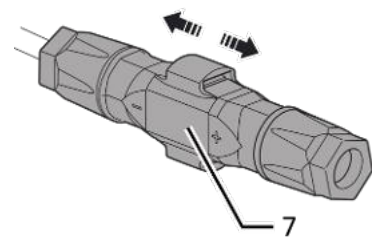

Fig. 24. Check fastening
5. Check latch by lightly pulling on the coupling (see Fig. 24).